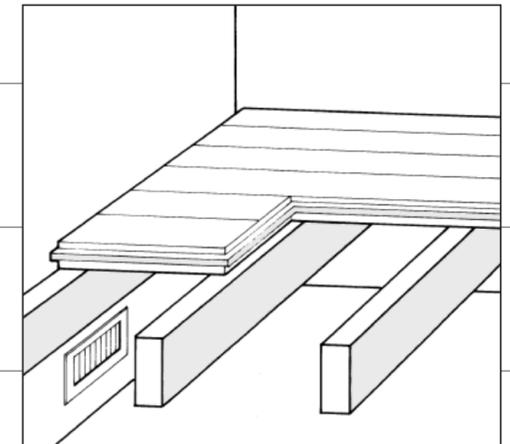

Figure 1
- 22mm and 20.5mm Floors “secret nailed” to joists or battens. (Figs. 1 & 2)
Ensure adequate ventilation beneath joists (Fig. 1) to current building regulations. Many floors will have a concrete or screeded base beneath them. Please see following instructions relating to these.
2 JOISTS AND BATTENS FOR JUNCKERS 22mm and 20.5mm FLOORS (See Figs. 1 & 2)
On Battens or Joists - 22mm and 20.5mm Floors. (Figs. 1 & 2). Boards must be “secret nailed” to every joist or batten at a 45° angle through the top of the tongue using 50mm or 65mm lost head wire nails (Fig. 6). Do not nail any closer than 50mm to a board or stave end.